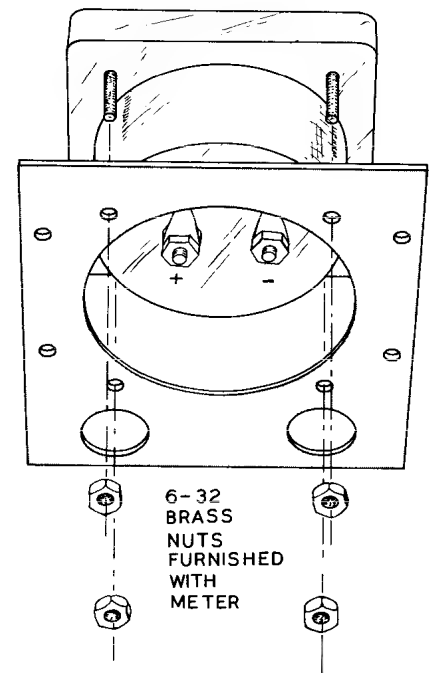

Figure 3
- () Insert the meter into the meter mounting plate as shown in Figure 3. Be sure the bottom of the meter is adjacent to the two large holes in the mounting plate. Do not turn down the nuts on the meter mounting studs yet as some adjustments may be required later. Do not use the lockwashers.